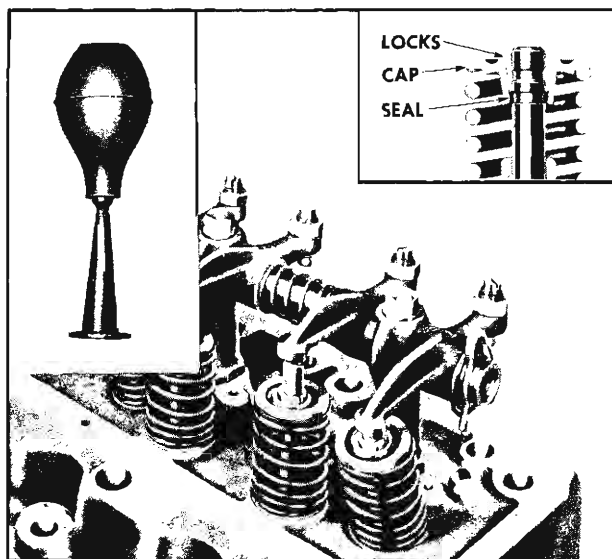

Fig. 15—Correct Installation of Seal, Cap and Lock
- Starting with No. 1 cylinder, place the exhaust valve in the port and place the valve spring and cap in position. Place spring and rotator on exhaust valves. Then using Tool J-8062, compress the spring and install the oil seal and valve keys (fig. 15). See that the seal is flat and not twisted in the valve stem groove and that the keys seat properly in the valve stem groove.
- Assemble the remaining valves, valve springs, rotators, spring caps, oil seals and valve keys in the cylinder head using Tool J-8062. Check seals by placing a vacuum cup shown in Figure 15 inset, over valve stem and cap, squeeze vacuum cup to make sure no air leaks past oil seal.
8. Tighten retaining bolts evenly to 25-30 ft. lbs. torque. Figure 15 shows rocker arm and shaft assemblies correctly installed on head.